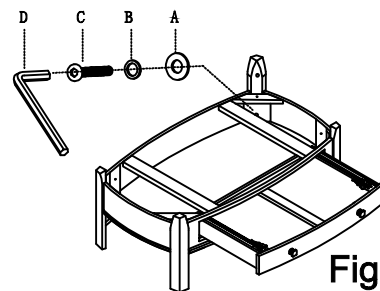

Figure 1
2. Assemble the legs to the bottom drawer box shelf using Bolt (C), Lock Washer (B), Flat Washer (A) and Allen Wrench (D). DO NOT FULLY TIGHTEN! As shown in Figure 1 .